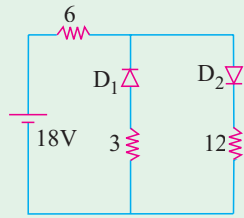

Fig. 52.49
1. Find the current supplied, if any, by the battery in the circuit of Fig. 52.49 which uses two oppositely-connected ideal diodes in parallel. [1 A]